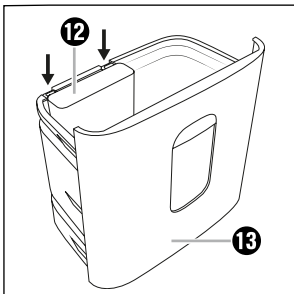

Fig. 3
- ◆ Place the small waste collector **12** in the large waste collector **13** (see fig. 3).